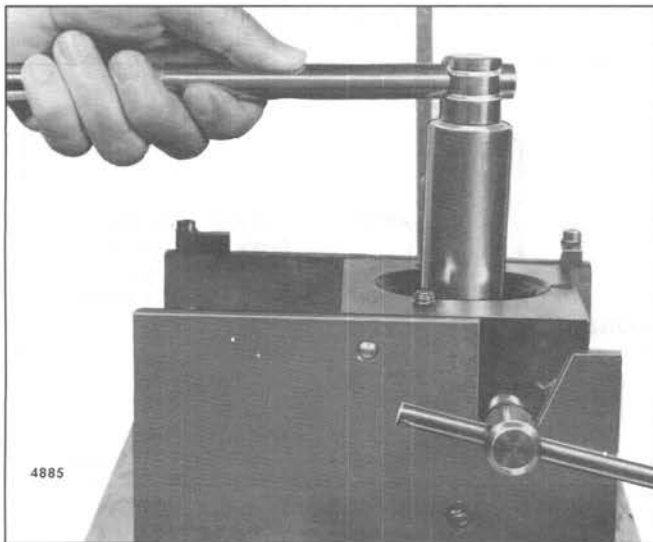

Fig. 12 – Removing Injector Nut using Tool J 4983-01
4. Using socket J 4983-01, loosen the nut on the injector body (Fig. 12).